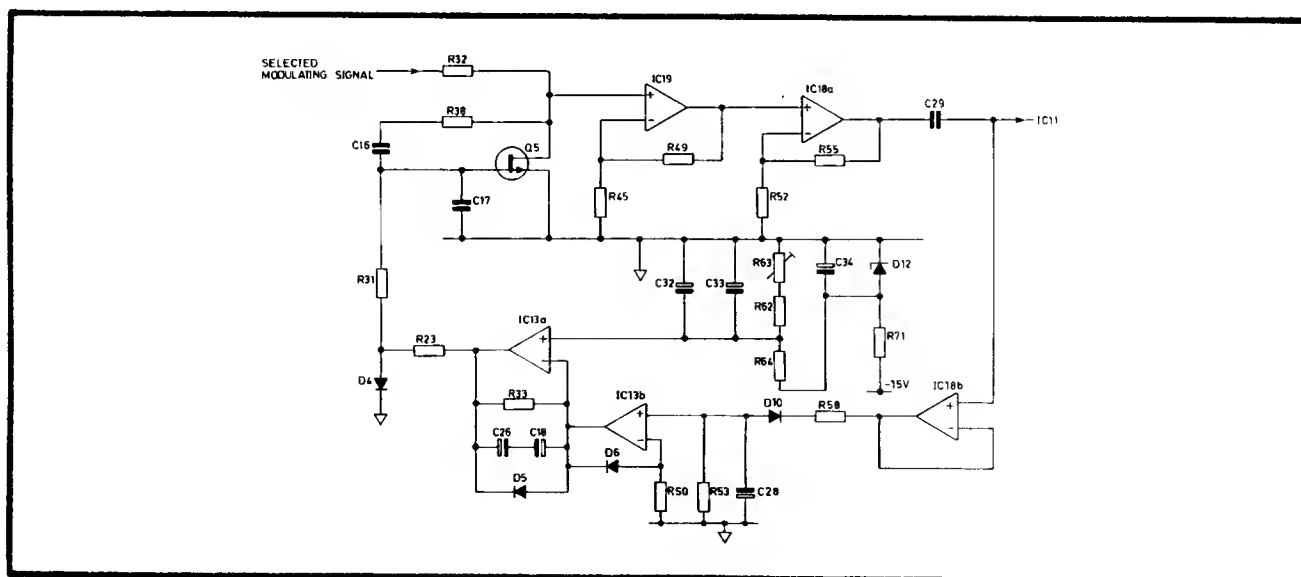

Fig. 6.4 ALC Circuit
6.5.2.2.8 The ALC circuit is illustrated in Fig. 6.4. It contains a variable attenuator, formed by R32 and Q5, followed by a two-stage fixed-gain amplifier. The impedance of Q5 is varied by feedback from the amplifier output to control the attenuation.